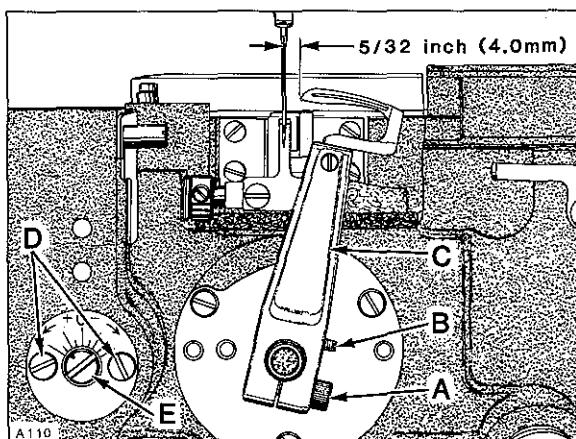

Fig. 7
Insert a new needle, type and size specified. With looper positioned at EXTREME right end of travel, distance from centerline of needle to point of looper should be 5/32 inch (.40mm). Adjustment can be made by loosening screw (A, Fig. 7) and turn screw (B) clockwise to increase looper gauge or counterclockwise to decrease. Apply pressure to the upper portion of looper holder (C) to the left while making this adjustment and locking with screw (A). Looper gauge No. 21225-5/32 can be used advantageously while making this adjustment. Looper must also be set so, as it travels to the left behind the needle, NOT to touch, but with a MAXIMUM clearance of .005 inch (.127mm). Adjustment can be made by loosening screw (A) and moving looper holder (C) forward or rearward on its shaft to obtain specified conditions; apply pressure to the upper portion of looper holder to the left while tightening screw (A).
Machine is equipped with a quick adjustable looper avoid mechanism to accomodate extreme differences in needle sizes. If looper avoid requires re-setting, loosen two screws (D, Fig. 7) and turn eccentric stud (E) towards the plus side (counterclockwise) for MORE looper avoid or towards the minus side (clockwise) for LESS looper avoid. When desired setting is acquired, tighten screws (D).